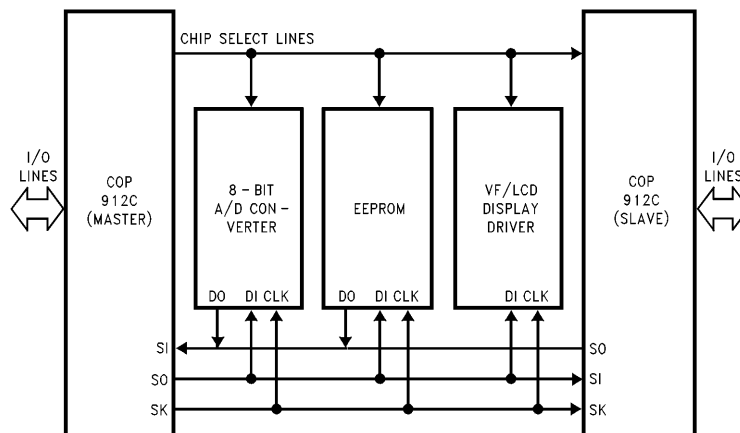

FIGURE 5. MICROWIRE/PLUS Application
MICROWIRE/PLUS is a serial synchronous communications interface. The MICROWIRE/PLUS capability enables the device to interface with any of National Semiconductor's MICROWIRE peripherals (i.e., A/D converters, display drivers, EEPROMS etc.) and with other microcontrollers which support the MICROWIRE interface. It consists of an 8-bit serial shift register (SIO) with serial data input (SI), serial data output (SO) and serial shift clock (SK). Figure 5 shows a block diagram of the MICROWIRE logic.
Setting the BUSY bit in the PSW register causes the MICROWIRE/PLUS to start shifting the data. It gets reset when eight data bits have been shifted. The user may reset the BUSY bit by software to allow less than 8 bits to shift. The device may enter the MICROWIRE/PLUS mode either as a Master or as a Slave. Figure 5 shows how two microcontrollers and several peripherals may be interconnected using the MICROWIRE/PLUS arrangement.